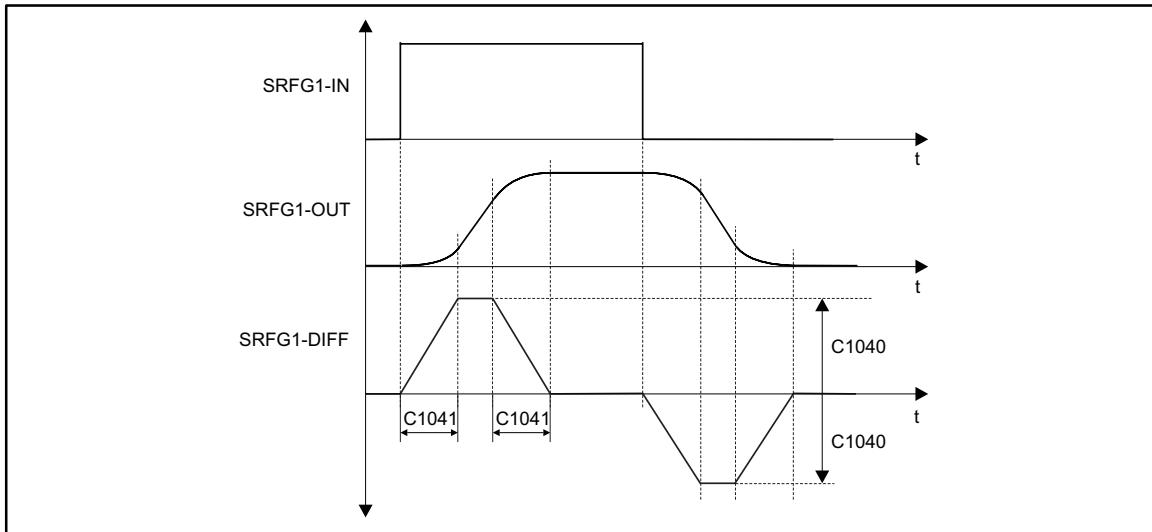

Fig. 7-151
- The acceleration characteristic (signal at SRFG-DIFF) in Fig. 7-151 shows the linear rising or falling of the signal during the rounding time (**C1041**).